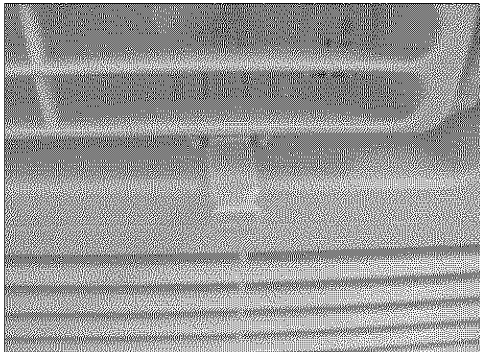

Figure 2 (VENT OPEN)
2. Draw fresh air into the room - Vent Open (see Fig. 2)